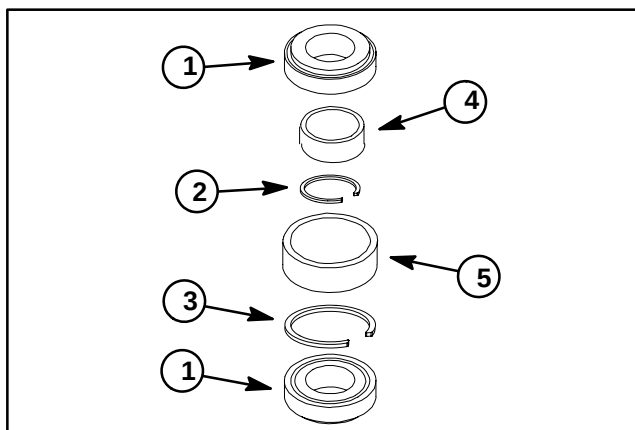

Figure 5
NOTE: A replacement spindle bearing set contains two (2) bearings, a spacer ring and a large snap ring (Fig. 5). These parts cannot be purchased separately. A replacement spacer set includes the inner spacer and outer spacer.
IMPORTANT: If new bearings are installed into a used spindle housing, it may not be necessary to replace the original large snap ring. If the original snap ring is in good condition with no evidence of damage (e.g. spun bearing), leave the snap ring in the housing and discard the snap ring that comes with the new bearings. If the large snap ring is found to be damaged, replace the snap ring. Replacement bearings are sold only with a matched spacer ring and large snap ring (Fig. 5). These parts cannot be purchased separately.